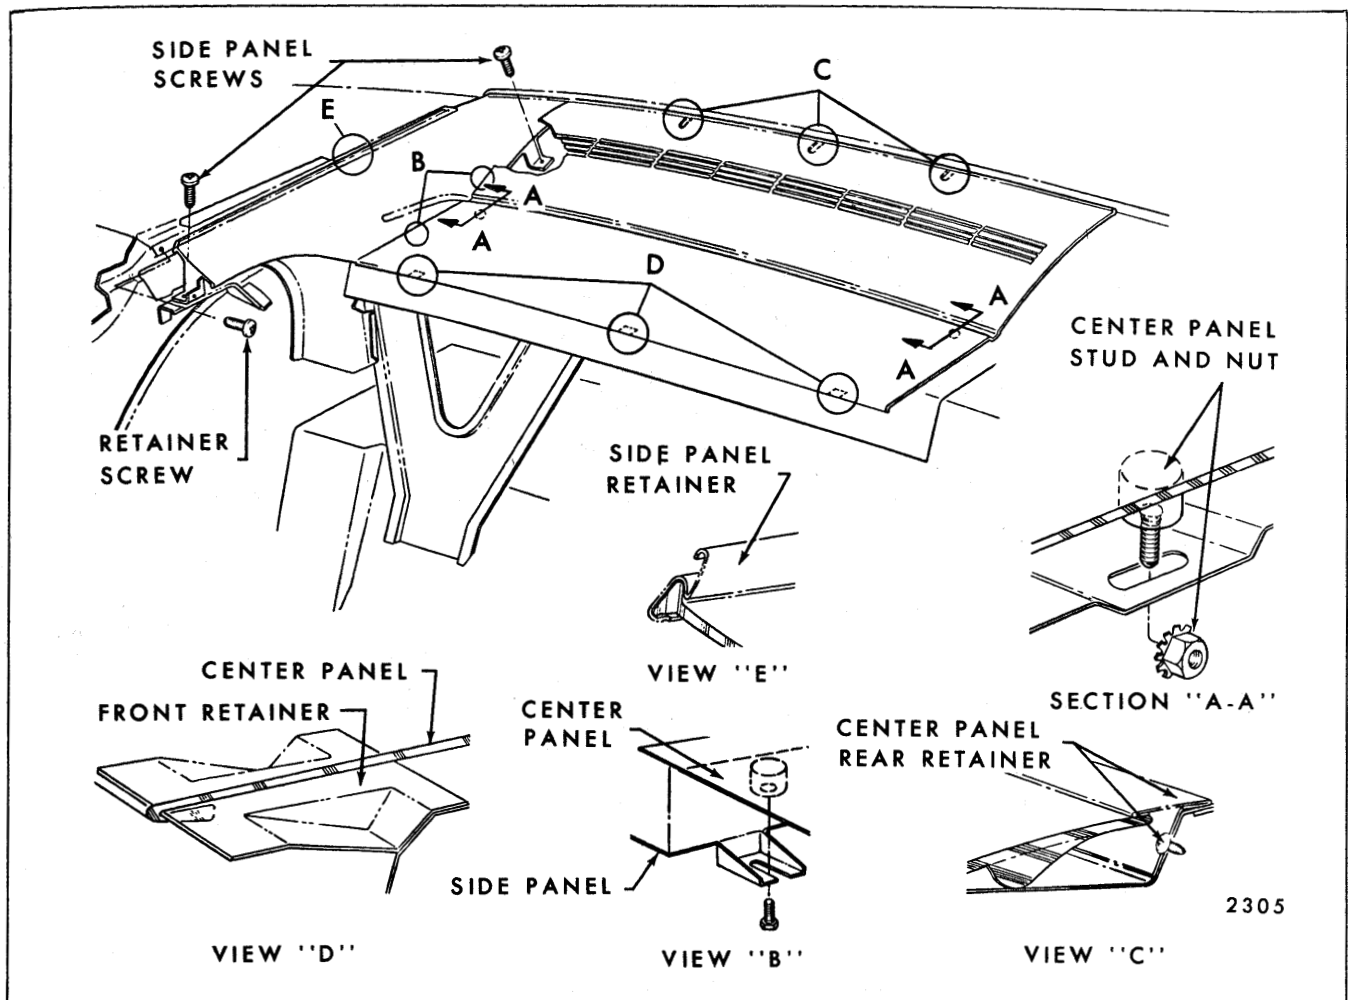
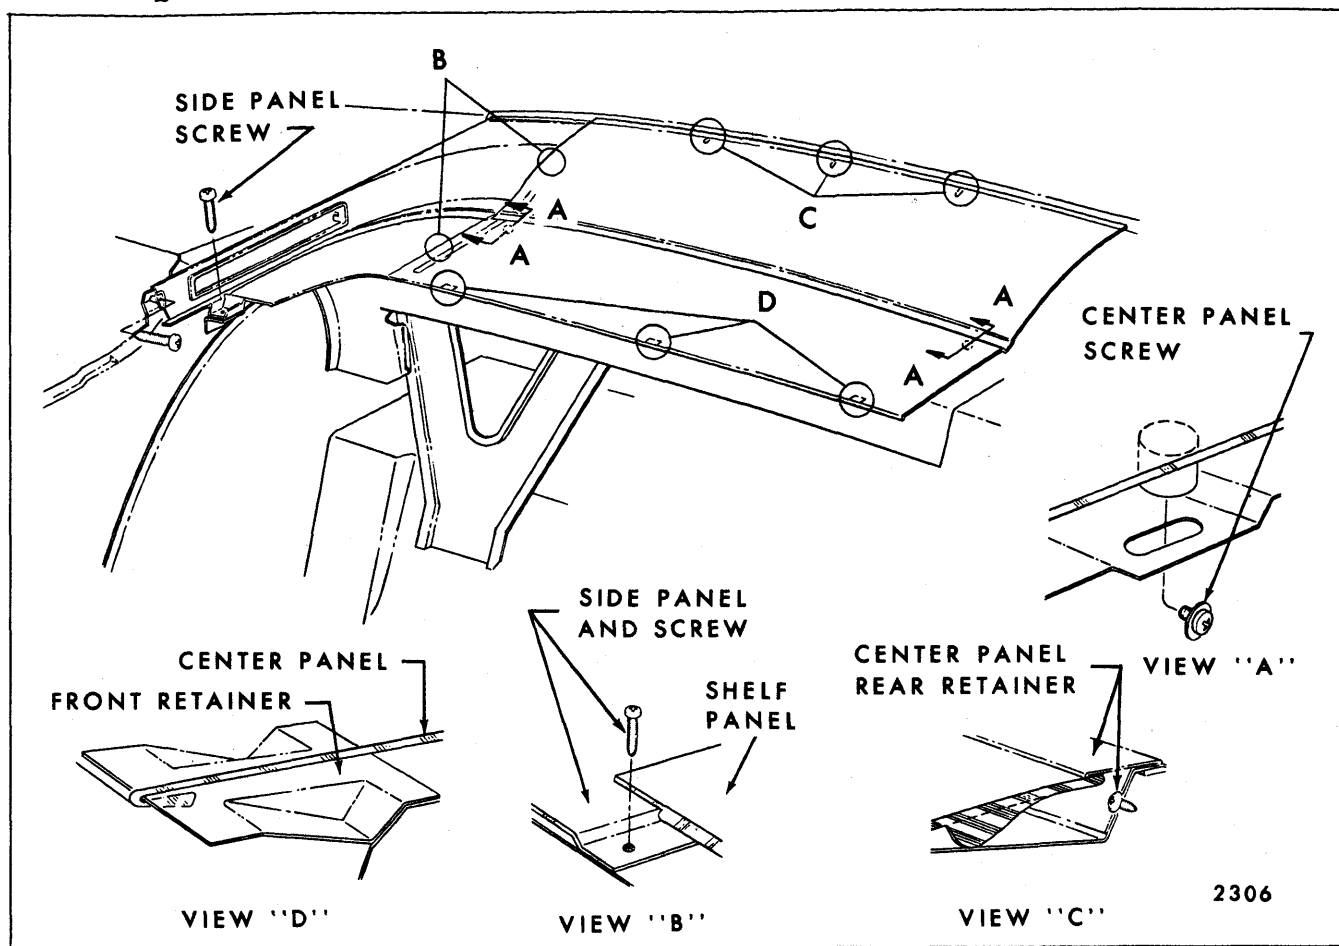

Fig. 8-12—Compartment Shelf Trim - Buick "E" Body
Fig. 8-13—Compartment Shelf Trim - Oldsmobile "E" Body
2. From inside rear compartment remove compartment shelf center finishing panel attaching screws or nuts at locations shown in Fig. 8-12 for Buick or Fig. 8-13 for Oldsmobile.
3. From inside body pull center finishing panel forward sufficiently to disengage both front and rear edge of center finishing panel from retainers (see Figs. 8-12 and 8-13, Views "B & F"); then, lift panel upward and remove from shelf panel.
4. Remove compartment shelf side finishing panel attaching screws (Figs. 8-12 and 8-13) and remove side finishing panel. On Oldsmobile styles disconnect courtesy lamp feed wires.